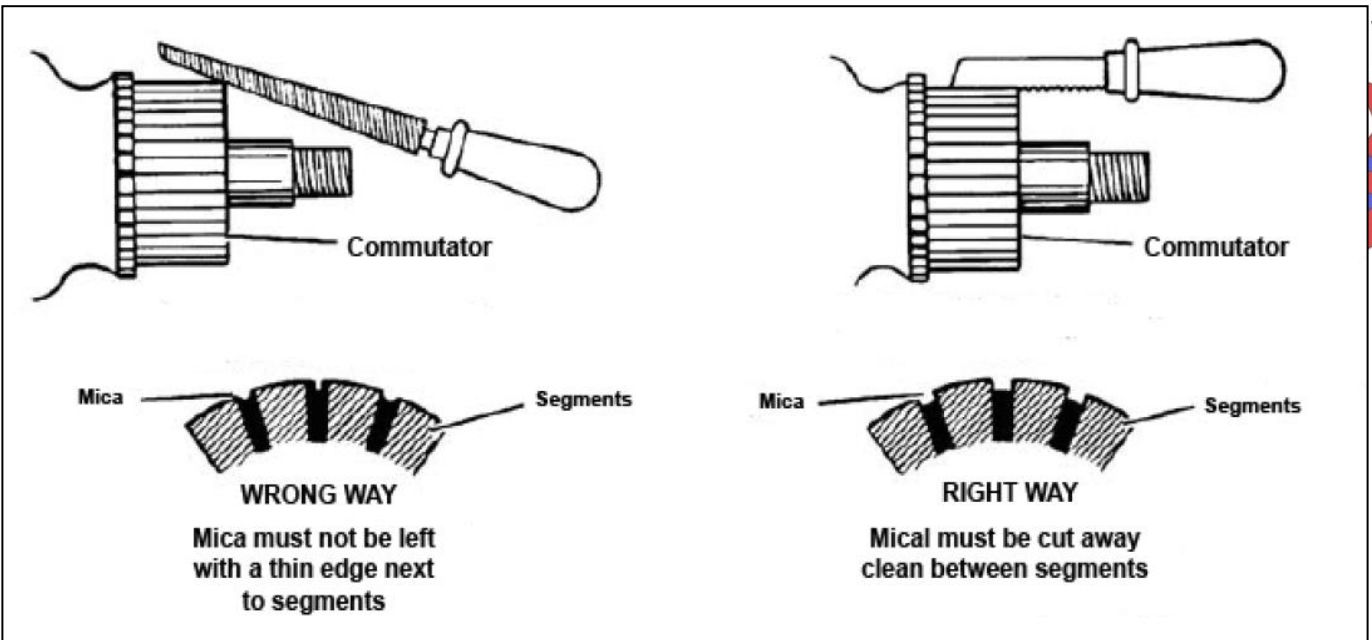

Figure 9-10
2. Support the armature at both bearing journals. Check runout of commutator with a dial indicator. Total indicated runout should not exceed 0.005" (0.12 mm). If the readings fall outside this limit, commutator must be turned and undercut. Figure 9-10.